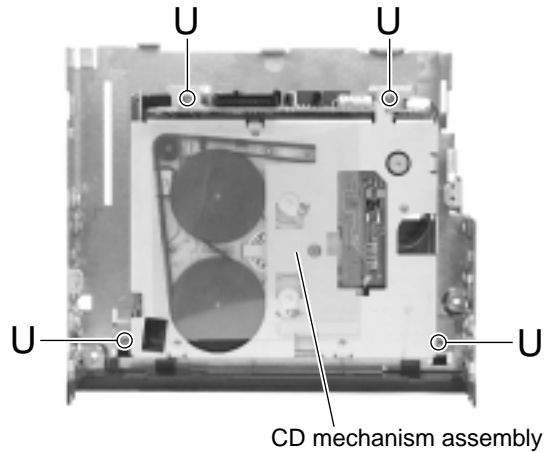

Fig.22
■ Removing the cassette mechanism assembly (See Fig.22)